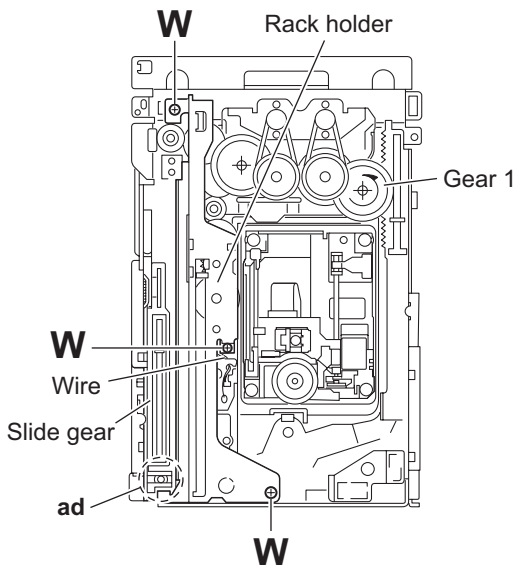

Fig.32
3.2.14 Removing the rack holder and sensor assembly (See Figs.32 to 38)
- Prior to performing the following procedures, remove the tray assemblies, side (L), side (R) assembly and lifter assembly.
If the slide gear of the DVD changer mechanism assembly places at joint **ad** of the rack holder, turn the gear 1 counter-clockwise to move the slide gear in the direction of the arrow. Then Remove the rack holder. (See Figs.32 and 33.)
- (1) Remove the three screws **W** attaching the rack holder and release joint **ad** from the notch **ae**. (See Figs.32 and 34.)
When reattaching the rack holder, do not nip the wires extending from the sensor assembly. (See Fig.32.)
- When reattaching the rack holder, turn the gear 1 clockwise to move the slide gear and slide lever inside the body in the direction of the arrow. (See Figs.32 and 38.)